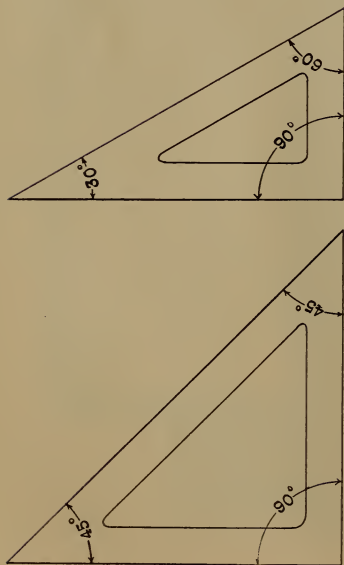

Fig. 5. 45 and 60 Degree Triangle.
6. **TRIANGLES.** The best triangles are made of transparent celluloid, not less than  $\frac{1}{16}$  in. thick. Triangles of 45 and 60 degrees are generally used. (See Fig. 5).